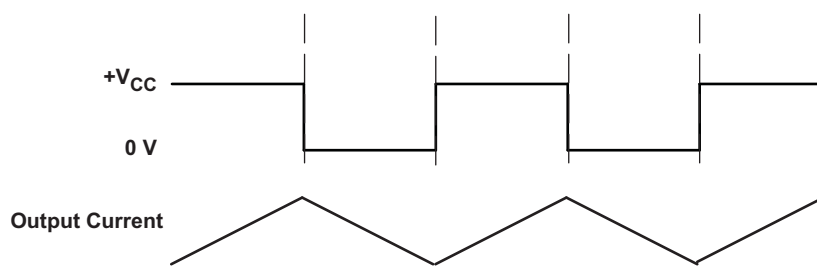
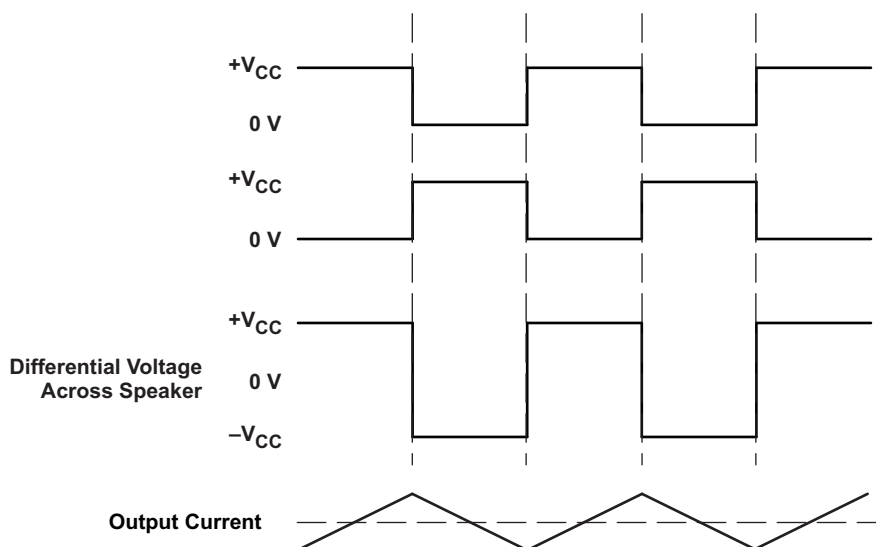

Figure 25. Class-D Modulation for TPA3121D2 SE Configuration
Figure 26. Class-D Modulation for TPA3121D2 BTL Configuration
The TPA3121D2 operates in AD mode. There are two main configurations that may be used. For stereo operation, the TPA3121D2 should be configured in a single-ended (SE) half-bridge amplifier. For mono applications, TPA3121D2 may be used as a bridge-tied-load (BTL) amplifier. The traditional class-D modulation scheme, which is used in the TPA3121D2 BTL configuration, has a differential output where each output is 180 degrees out of phase and changes from ground to the supply voltage,  $V_{CC}$ . Therefore, the differential prefiltered output varies between positive and negative  $V_{CC}$ , where filtered 50% duty cycle yields 0 V across the load. The class-D modulation scheme with voltage and current waveforms is shown in Figure 25 and Figure 26.